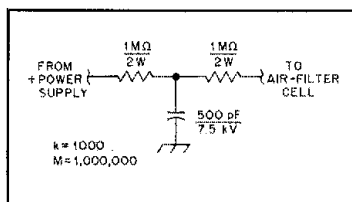

Fig 5—John Morris cleaned up air-cleaner interference with this simple T-section filter. See text.
□ My Heathkit® GDS-1297 electrostatic air cleaner worked fine as assembled, with the exception that it caused a loud frying noise in nearby MF and HF receivers, and snow on a TV in the same room. The unit's power supply—approximately 6 kV —is clean. Only when the air-filter cell was connected to the supply did the noise appear. My cure? A simple T-section filter consisting of two $1\text{-M}\Omega$ resistors and a 500-pF , 7.5-kV capacitor to ground between the power supply and the air-filter cell (see Fig 5). This filter reduced the noise to an acceptable level.—*John L. Morris, W6YAR, 14427 Allingham Ave, Norwalk, CA 90650*